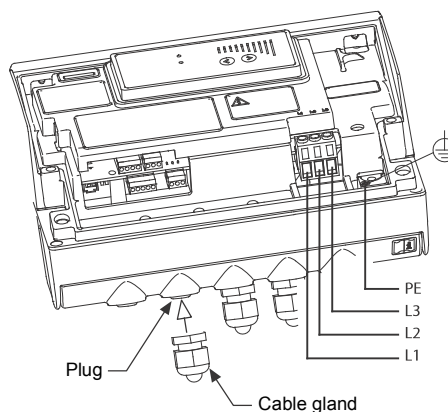

Fig. 19 Removing the plug and connecting cable gland to the terminal box
- a. Remove the plug from each MLE terminal box with a flat head screw driver. See fig. 19.
- b. Screw a new cable gland into each MLE terminal box with a crescent wrench. See fig. 19.
- i. Tighten the cable gland cap to secure the cable. See fig. 19.